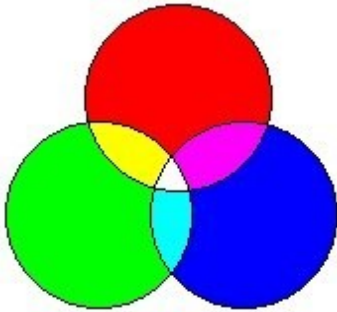

Figure 12-6: Making New Light Colors by Mixing the 3 Primary
color we get. In many high-end graphics systems, an 8-bit value is used to represent the intensity. Its value can be between 0 and 255 (0 to 0xFF) representing high intensity (255) and zero intensity. See Table 12-2. Using three primary colors and intensity, we can make many colors we want. See Figure 12-6.